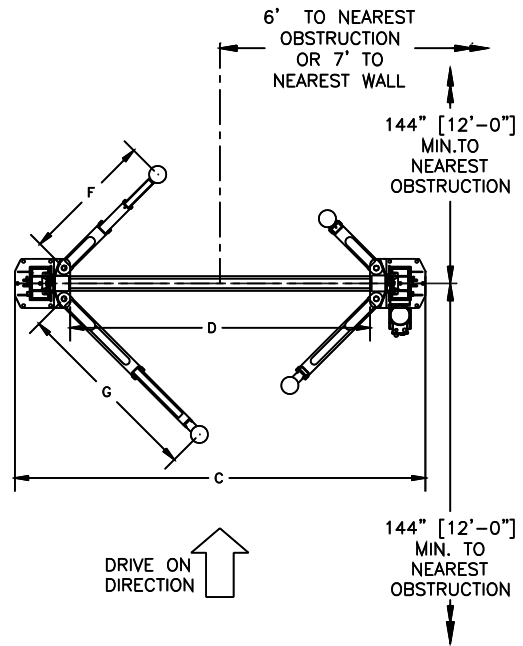

Fig1b - Service Bay Layout
- 1) Layout the service bay according to the architect's plans or owners instructions (**see Fig 1b**). **Failure to install in this orientation can result in personal and property damage.** Be certain that the proper conditions exist, see page 3.
- 3) Using the Overall Width (C) Dimension from **Fig 1b**, chalk two parallel lines on the floor within 1/8" tolerance. Erect both column assemblies. Align the base plate edges to the chalk lines.